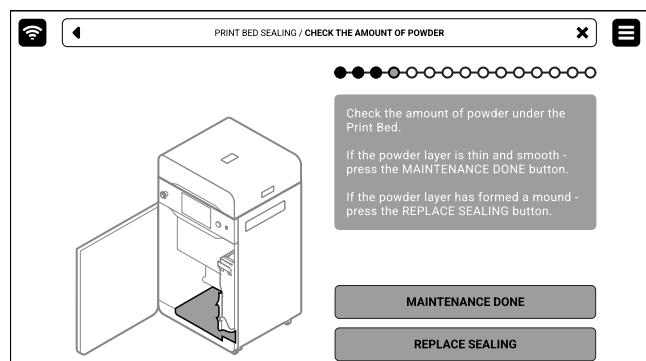

Fig. 12.20 Check the amount of powder under the Beds.
10. Check the amount of powder under the Print Bed. If the powder layer is thin and smooth - press the **MAINTENANCE DONE** button (fig 12.20).
11. If the powder layer has formed a mound - press the **REPLACE SEALING** button (fig. 12.20).